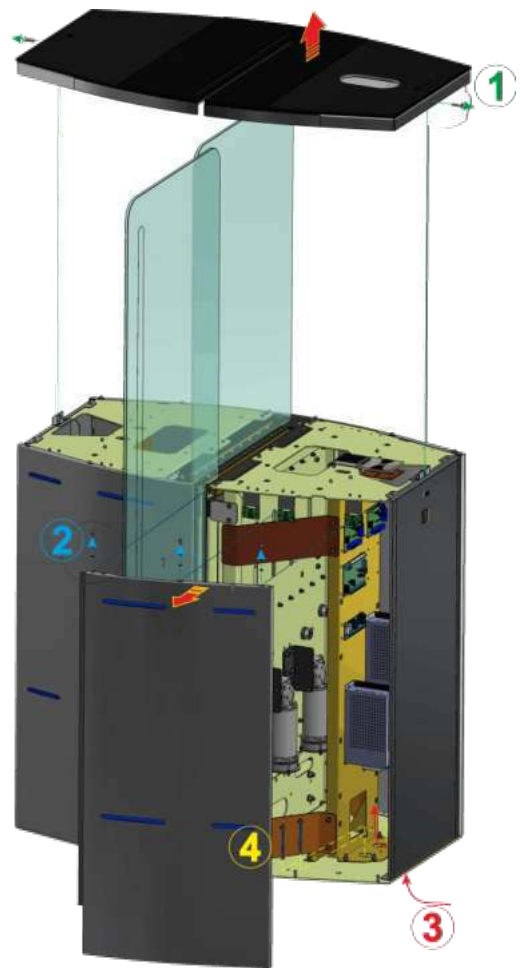

Fig.16 – General view of the “JetPan-900-1” turnstile cabinet installation
1. – remove the turnstile lid by unscrewing screws on the ends (See Fig. 16);